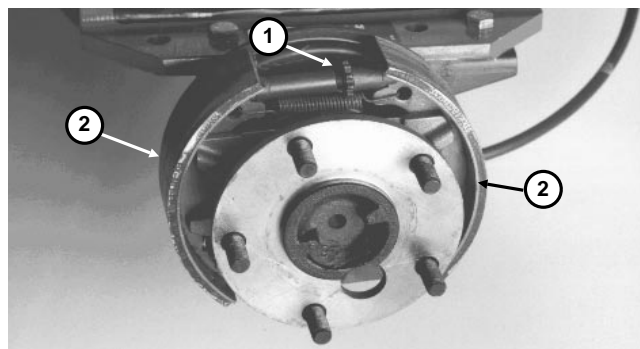

Figure 14
7. Use a brake adjusting tool or a screwdriver to rotate star nut until brake drum locks because of outward pressure of brake shoes (Fig. 14).
9. Install wheel onto studs with five (5) wheel nuts. Tighten the wheel lug nuts.